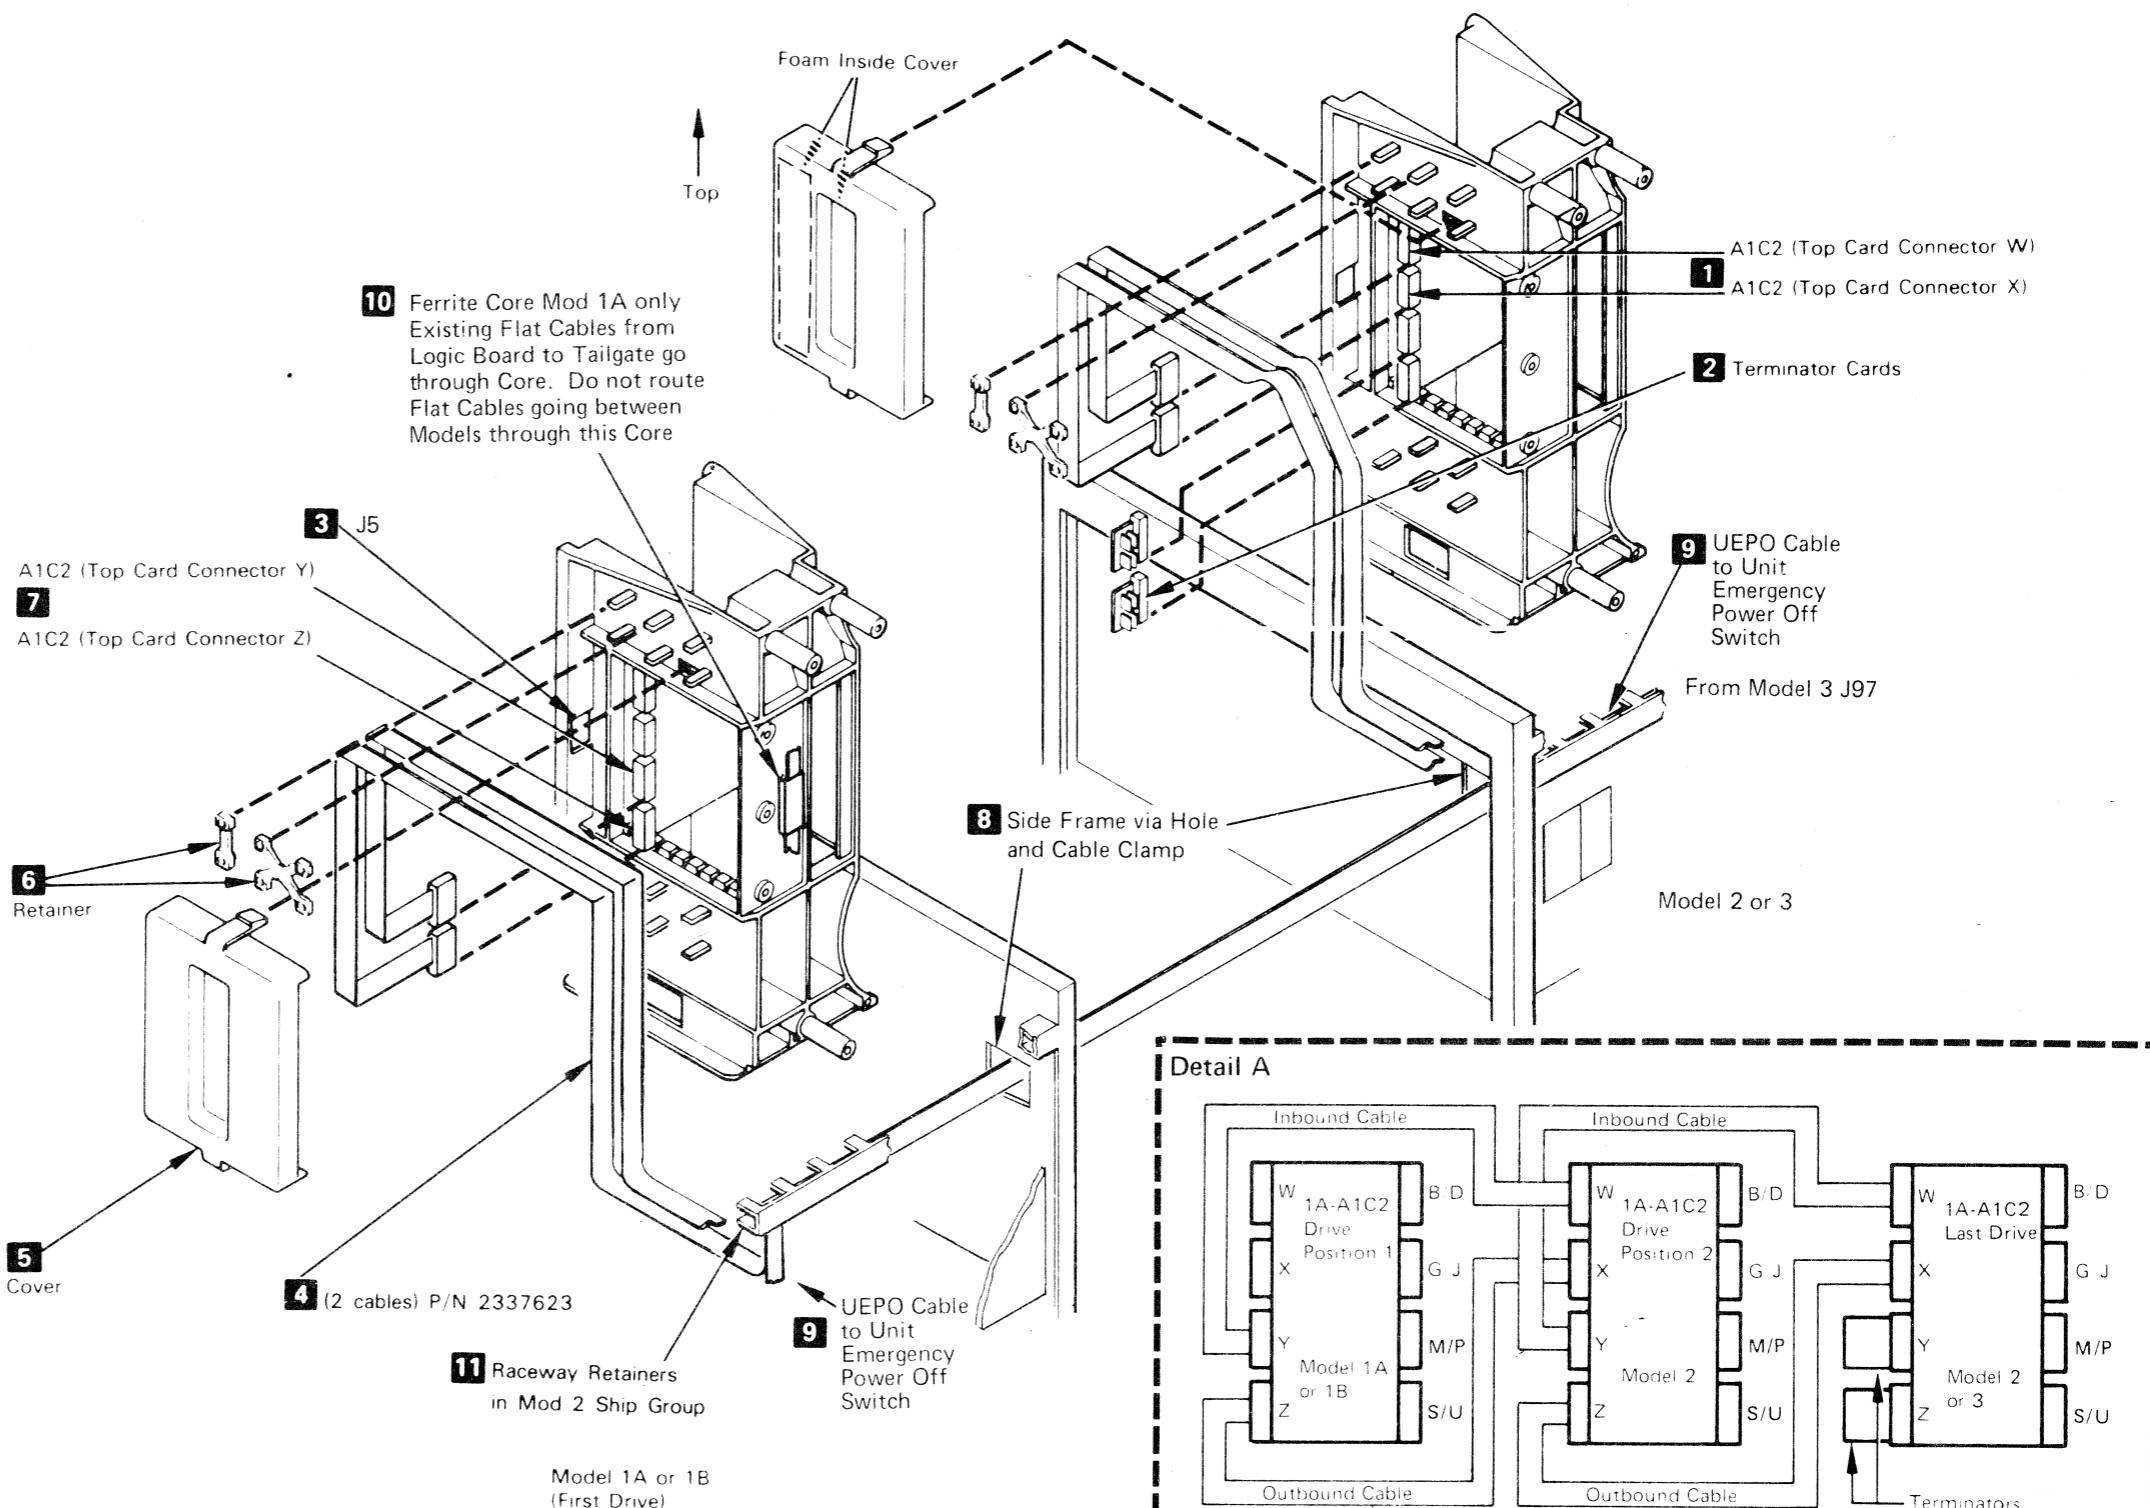

Figure 5. Cabling From One Model to Another
See Figure 5, **4** to route the flat cables from the Model 1A, 1B, or 3 to the Model 2.
- 14.** Before installing these cables, the logic board covers (Figure 5, **5**) must be removed from all 8809s. Press on the latches at each end of the cover and pull off the cover.
- 15.** The cable retainers (PN 811519 and PN 811427) and cable raceways (PN 2306491) (Figure 5, **11**) to be installed in the Model 1 are part of the Model 2 shipping group. Remove the paper backing from the cable raceways to expose the adhesive and install them in the Model 1, as shown in Figure 5, **11**. Install the cable raceways in the same position as those already installed in the Model 2.
- 17.** Install the cables **4** and retainers **6** as shown in Figure 5. Hold each cable with fold marks toward you and fold inward along the fold marks. The cable must be routed through and clamped at the side frame by means of the hole and cable clamps as shown in (Figure 5, **8**). Do not route the cables through the ferrite core in the Model 1A (Figure 5, **10**). Remove J5 on Power Amplifier. (See **3**.) Route the cables under the existing flat cables.
- 18.** Connect the two flat cables (Figure 5, **4**) from the Model 2 or Model 3 top card connector A1C2 W and X (Figure 5, **1**) to the unit to the left at the top card connector A1C2 Y and Z (Figure 5, **7**). See Detail A. Reinstall J5.
19. The unit emergency power off (UEPO) cables go from J97 of each 8809 Model 3 in the series to the Unit Emergency Switch in the Model 1A or 1B. Route these cables along the flat cable path (Figure 16, **7** or (Figure 5, **9**) and connect as shown below: